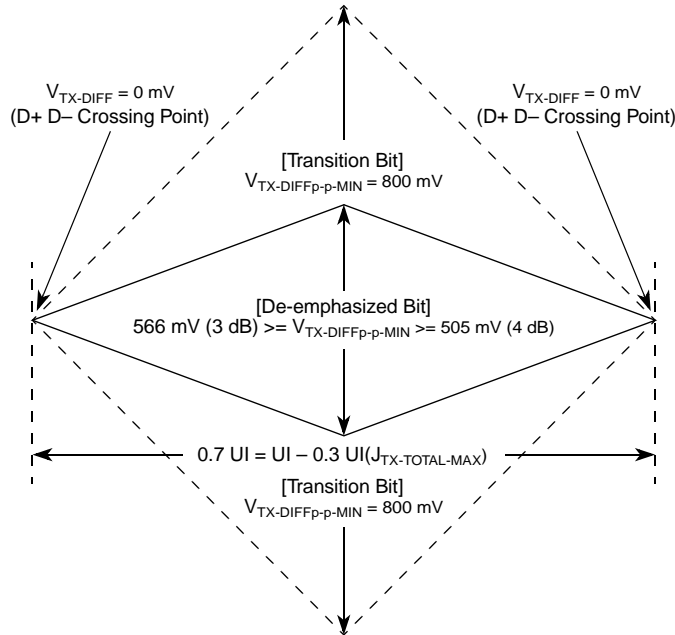
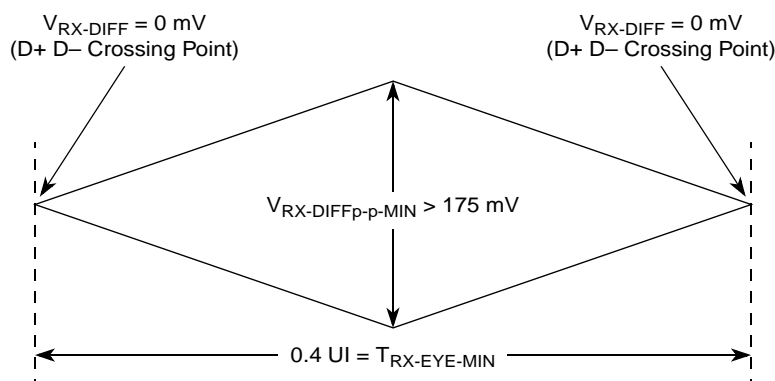
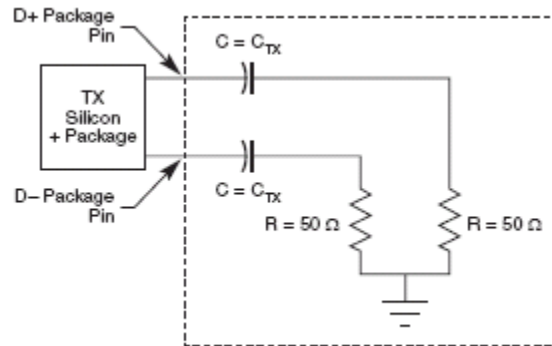

Figure 49. Minimum Transmitter Timing and Voltage Output Compliance Specifications
Figure 50. Minimum Receiver Eye Timing and Voltage Compliance Specification
Figure 51. Compliance Test/Measurement Load
2. Specified at the measurement point into a timing and voltage compliance test load as shown in Figure 51 and measured over any 250 consecutive TX UIs. (Also refer to the transmitter compliance eye diagram shown in Figure 49.)
4. The transmitter input impedance shall result in a differential return loss greater than or equal to 12 dB and a common mode return loss greater than or equal to 6 dB over a frequency range of 50 MHz to 1.25 GHz. This input impedance requirement applies to all valid input levels. The reference impedance for return loss measurements is 50 Ω to ground for both the D+ and D- line (that is, as measured by a vector network analyzer with 50- Ω probes, see Figure 51). Note that the series capacitors, C_{TX} , is optional for the return loss measurement.
5. Measured between 20%–80% at transmitter package pins into a test load as shown in Figure 51 for both V_{TX-D+} and V_{TX-D-} .
The TX eye diagram in Figure 49 is specified using the passive compliance/test measurement load (see Figure 51) in place of any real PCI Express interconnect + RX component. There are two eye diagrams that must be met for the transmitter. Both diagrams must be aligned in time using the jitter median to locate the center of the eye diagram. The different eye diagrams differ in voltage depending on whether it is a transition bit or a de-emphasized bit. The exact reduced voltage level of the de-emphasized bit is always relative to the transition bit.
- Specified at the measurement point and measured over any 250 consecutive UIs. The test load in Figure 51 should be used as the RX device when taking measurements (also refer to the receiver compliance eye diagram shown in Figure 50). If the clocks to the RX and TX are not derived from the same reference clock, the TX UI recovered from 3500 consecutive UI must be used as a reference for the eye diagram.
- The receiver input impedance shall result in a differential return loss greater than or equal to 15 dB with the D+ line biased to 300 mV and the D- line biased to -300 mV and a common mode return loss greater than or equal to 6 dB (no bias required) over a frequency range of 50 MHz to 1.25 GHz. This input impedance requirement applies to all valid input levels. The reference impedance for return loss measurements for is 50Ω to ground for both the D+ and D- line (that is, as measured by a vector network analyzer with $50\text{-}\Omega$ probes, see Figure 51). Note that the series capacitors, C_{TX} , is optional for the return loss measurement.
The RX eye diagram in Figure 50 is specified using the passive compliance/test measurement load (see Figure 51) in place of any real PCI Express RX component. In general, the minimum receiver eye diagram measured with the compliance/test measurement load (see Figure 51) is larger than the minimum receiver eye diagram measured over a range of systems at the input receiver of any real PCI Express component. The degraded eye diagram at the input Receiver is due to traces internal to the package as well as silicon parasitic characteristics which cause the real PCI Express component to vary in impedance from the compliance/test measurement load. The input receiver eye diagram is implementation specific and is not specified. RX component designer should provide additional margin to adequately compensate for the degraded minimum Receiver eye diagram (shown in Figure 50) expected at the input receiver based on an adequate combination of system simulations and the return loss measured looking into the RX package and silicon. The RX eye diagram must be aligned in time using the jitter median to locate the center of the eye diagram.
The reference impedance for return loss measurements is 50 Ω to ground for both the D+ and D- line (that is, as measured by a Vector Network Analyzer with 50 Ω probes—see Figure 51). Note that the series capacitors, $C_{PEACCTX}$, are optional for the return loss measurement.
The AC timing and voltage parameters must be verified at the measurement point, as specified within 0.2 inches of the package pins, into a test/measurement load shown in Figure 51.